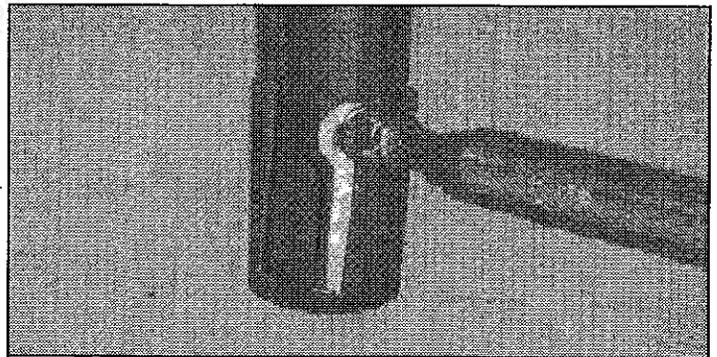

Figure 6.3 Air Shutter Adjustment - GB Series
- While the log/grate assembly is out of the appliance, locate the air shutter on the end of the burner. Loosen the screw and adjust the shutter to full open when converting to propane or fully closed when converting to natural gas, and tighten screw. See Figure 6.3.